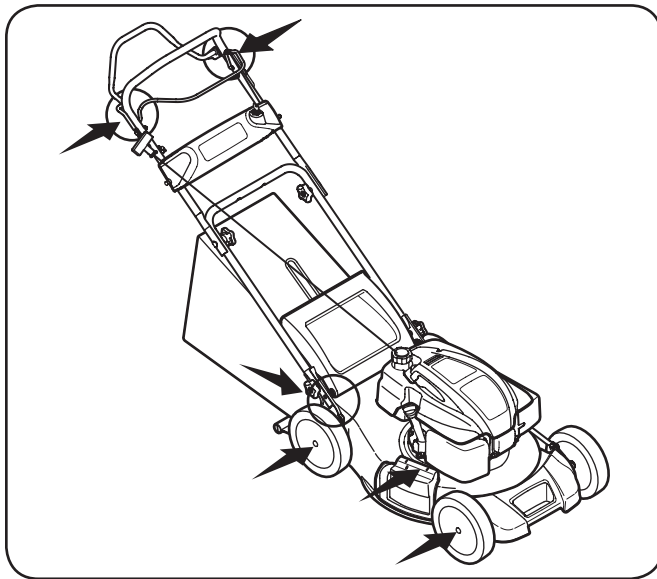

Figure 6-1
1. Lubricate pivot points on the blade and drive controls at least once a season with light oil. These controls must operate freely in both directions. See Figure 6-1.
2. Lubricate the wheels at least once a season with light oil (or motor oil). If wheels are removed for any reason, lubricate surface of the pivot arm and inner surface of the wheel with light oil. See Figure 6-1.
3. Lubricate the torsion spring and pivot point on the rear discharge door and side mulch plug periodically with light oil to prevent rust. See Figure 6-1.